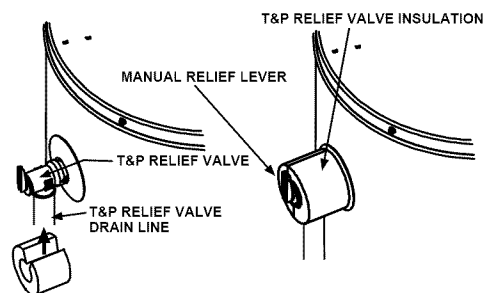

FIGURE 25.
3. Spread this slit open and slip it up under the T&P Relief Valve. See Figure 25. Apply gentle pressure to the insulation to ensure it is fully seated on the T&P Relief Valve. Once sealed secure the insulation with a section of tape. **IMPORTANT:** The insulation or tape should not block or cover the T&P Relief Valve drain opening. Also the insulation or tape should not block or hinder access to the T&P Relief Valve manual relief lever.